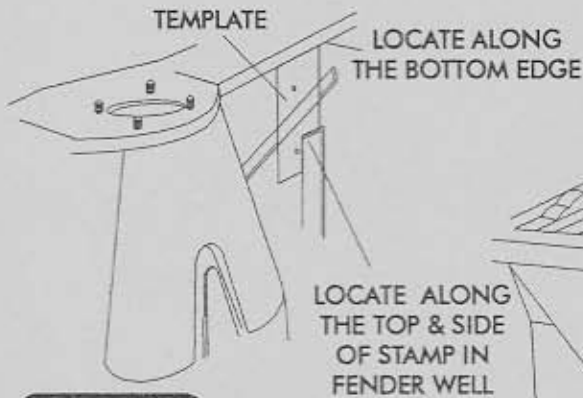

FIGURE 16a
- INSTALL DRIER ON FENDER WELL WITH BRACKETS USING (2) #10 x 1/2 SHEET METAL SCREWS AS SHOWN BELOW. NOTE: FACTORY A/C CARS WILL USE EXISTING OEM HOLES IN FENDERWELL TO LOCATE THE DRIER. NON-A/C CAR USE TEMPLATE SUPPLIED ON PAGE 18 TO LOCATE DIRER, MARK AND DRILL 7/64" MOUNTING HOLES IN THE FENDERWELL. SEE FIGURE 16a, BELOW.